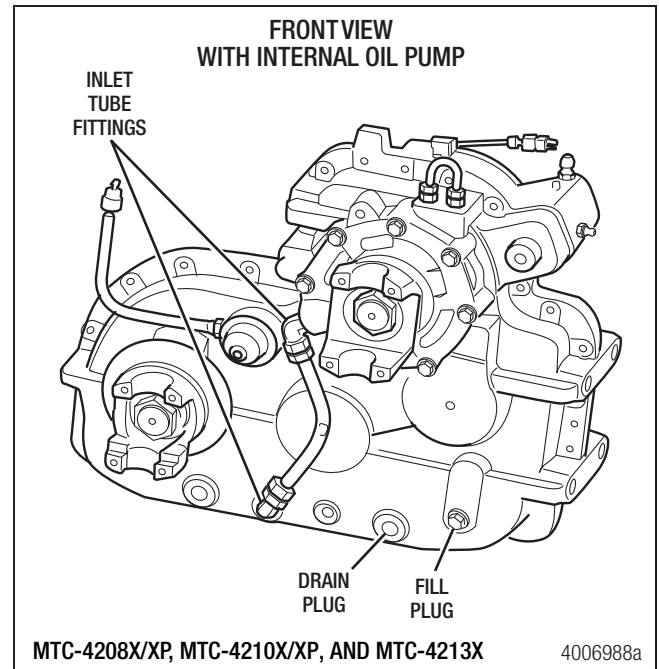

Figure 5.14
1. On transfer cases with an internal oil pump, remove the inlet oil tube from the transfer case by loosening the fittings at the lower front case and input-bearing cage. Figure 5.14.